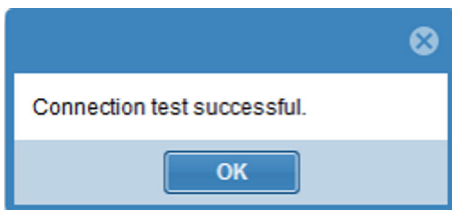

Fig. 145: Connection test successful
- ⇒ If the connection test is successful, the "Connection test successful" message (Fig. 145) is displayed.